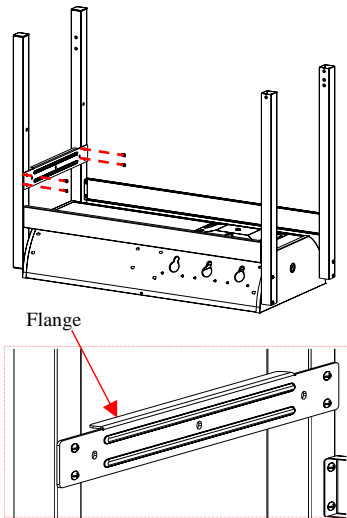

Fig. 3
*Locate:* Firebox Supporting Brace, (4) M6x12 bolts
*Procedure:* Attach the Firebox Supporting Brace to Right Rear Leg #1 and Right Front Leg #2 using (4) M6x12 bolts as shown as Fig. 3.